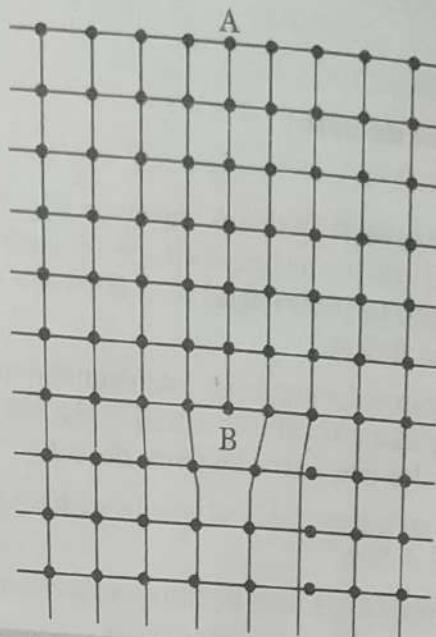

Fig. 1.7.2. An edge dislocation in a cubic lattice created by an extra plane of atoms. The line of the dislocation perpendicular to the page.
- Fig. 1.7.2 is a schematic representation of a line dislocation in a cubic lattice; it can be seen as an extra plane of atoms AB inserted into the lattice.